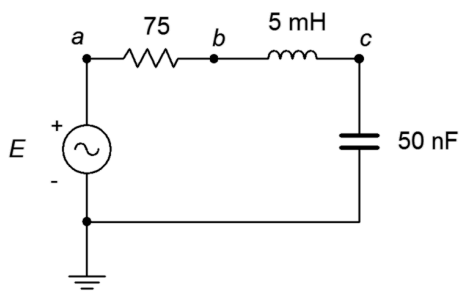

Figure 8.1
13. For the circuit shown in Figure 8.1, determine the resonant frequency, system Q and bandwidth. Assume $R_{\text{coil}} = 0\ \Omega$. If the source is $1\ \text{volt}$ peak, determine the capacitor voltage at resonance.